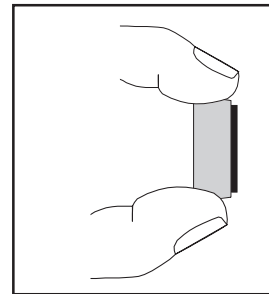

Figure 1: Method for Holding the Neodymium Magnets to Install Them on the Base
- ① Screw the iron poles back, widening the gap to about 7 cm. This will separate the poles so there is less chance of the magnets hitting together during installation.
- ② When a magnet is brought near to the iron pole, it will be strongly attracted to it so you will have to hold the magnet back as you approach the iron pole. Carefully put one magnet on the end of either one of the iron screw poles.
- ③ Take the second magnet firmly in your hand (see Figure 1) and test the polarity of this magnet by bringing one side of it near to the magnet you've already installed. When installed, the second magnet must be oriented so it is attracted to the first magnet, thus assuring that one pole of the assembled magnet is a